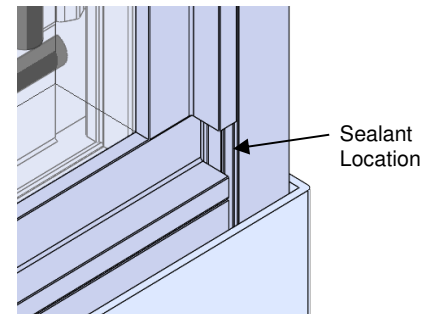

Figure 11:
5. Apply silicone at the intersection of glass wedges (Figure 11).